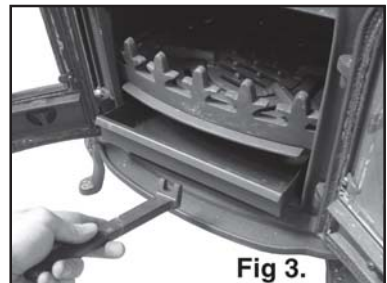

Fig 3.
4. Set the grate and ashpan in position as in Fig 3.